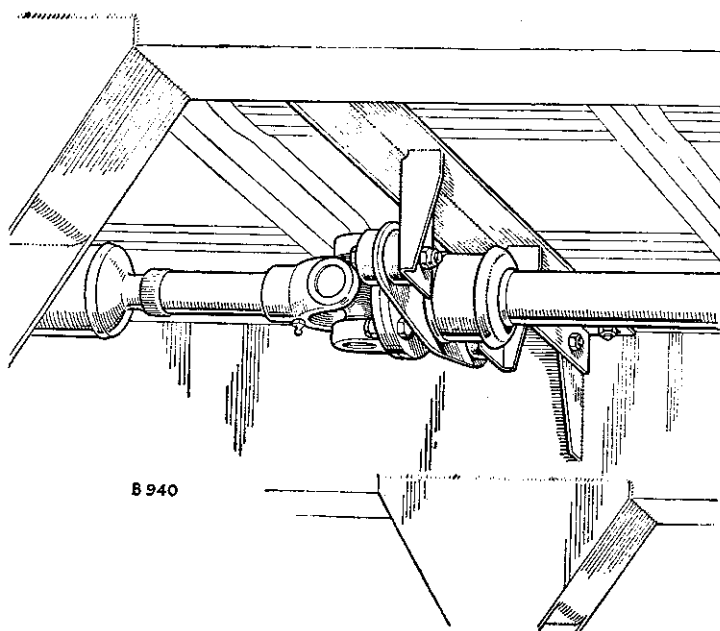

Fig. T-7—
3. 107 and 109 models only. Secure the cross-member intermediate bearing support to the brackets welded to the chassis side members, using the bolts, spring washers and nuts provided. (Fig T-7.)